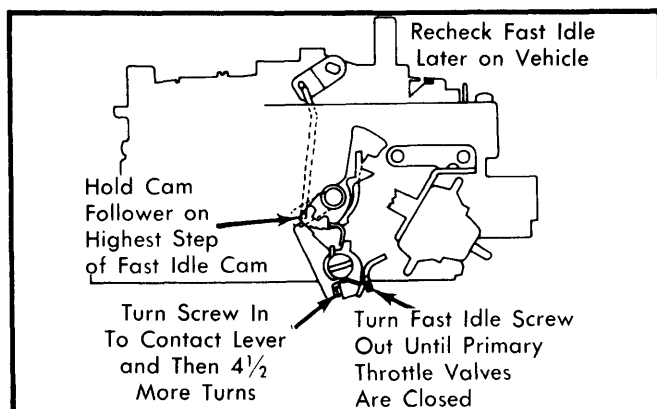

Fig. 4 Fast Idle Bench Adjustment
- 2) Now turn fast idle screw in until it just touches lever. Then, turn screw in an additional 4½ turns. See Fig. 4.